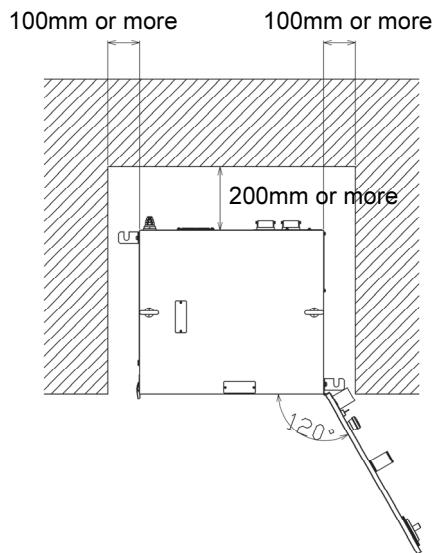

Fig. 2.4.4 Installation of robot controller
- (2) A robot controller has a through-hole for an external connection cable and cooling fan ventilator on its front side and back side. To install a robot controller, secure a space of at least 200 mm at back space and at least 100 mm at side space by referring to Fig. 2.4.4.